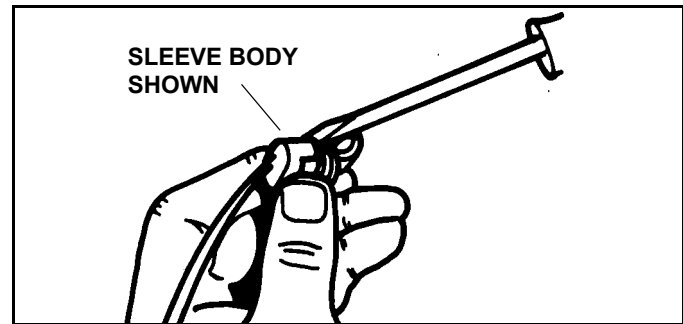

Figure 3-2
2. Remove wire retainer on sleeve body or pin body, as necessary, with a screwdriver and save for re-use (See Figure 3-2).